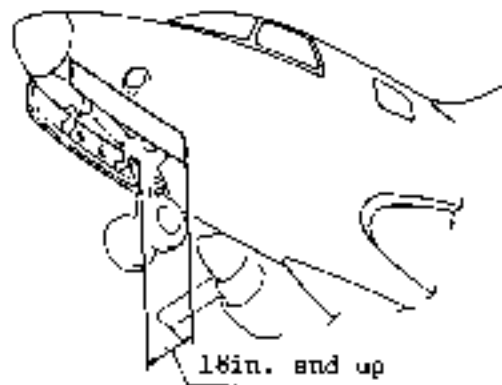

Fig. 4-17A. Adjustment of Nose Landing Gear Door
- (2) When the point A falls on the line B - B', adjust the cam so that the end of the jaw may be located 0.04 ~ 0.16 in. (1 ~ 4 mm) away from the nose strut.
- (3) Adjust the rod so that clearance between the doors and tire may be not less than 1.2 in. (30.5 mm) when the doors are open and not less than 0.8 in. (20.3 mm) when the doors are closed.
- (4) Retract the nose gear till the clearance of the mechanical stop becomes zero. Hang a weight of 20 lbs (9 kg) on the center edge of each forward door and make sure that the doors come off the door jambs 0.39 to 0.59 in. (10 to 15 mm). Adjust the rod length if necessary.
- (5) The distance between LH and RH nose landing gear door at the rear-lower end, should be more than 18in at the gear down condition. (See Fig 4-17A) (S/N 697 and up)